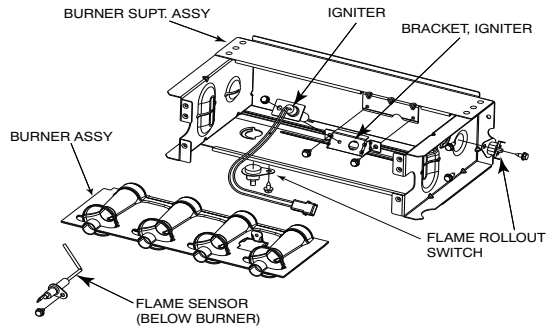

Fig. 3 – Burner Assembly
5. Remove wires from both rollout switches (see Fig. 3)
6. Slide one-piece burner assembly out of slots on sides of burner box (see Fig. 3)